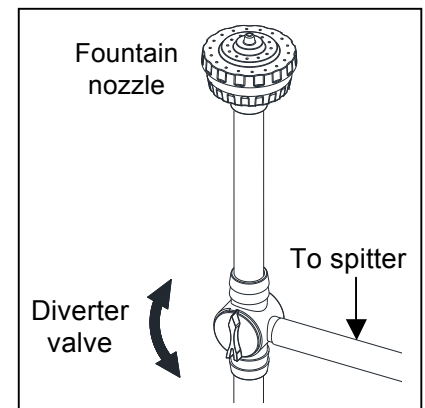

Fig. 8
8. If the diverter valve was used, adjust the diverter valve to split the flow between the fountain nozzle and the spitter as need. Fig. 8